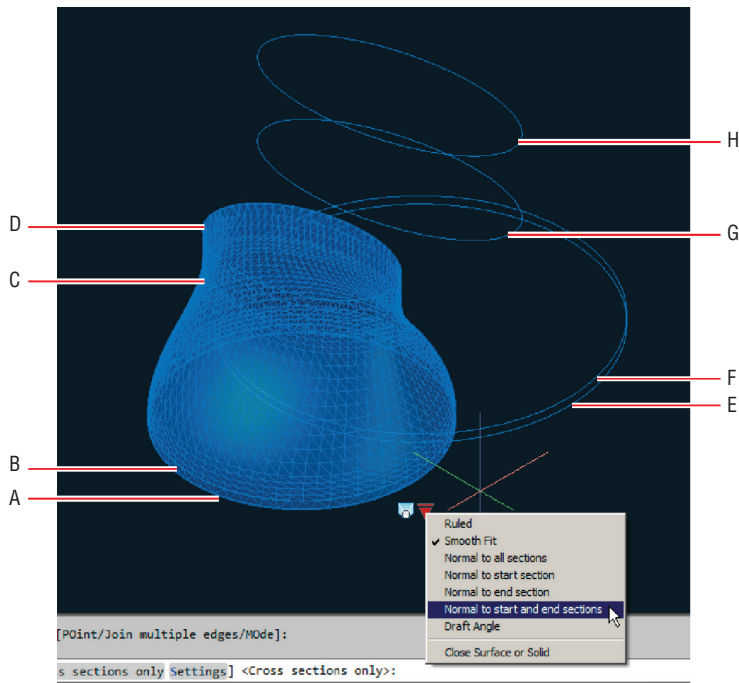
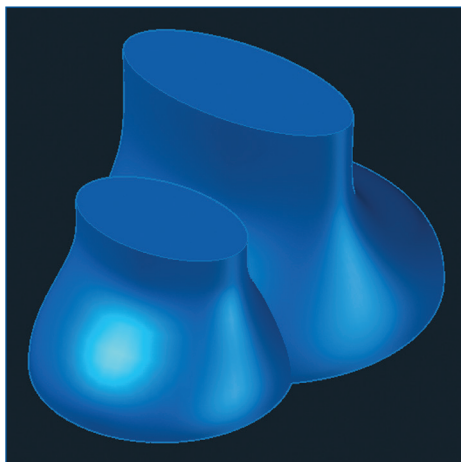

FIGURE 17.20 Lofting one of the two ventilation towers
FIGURE 17.21 Lofted ventilation towers
3. Zoom in on the collection of blue circles and ellipses. Select the Loft tool from the drop-down menu under Sweep on the Solid panel and press Enter. Select profiles A, B, C, and D shown in Figure 17.20 and press Enter twice. Select the loft object, open the grip menu that appears, choose Normal To Start And End Sections, and press Esc.
4. Press the spacebar to repeat the LOFT command. Select profiles E, F, G, and H, shown in Figure 17.20, and press Enter twice. Select the new loft object, open the grip menu that appears, choose Normal To Start And End Sections, and press Esc. Figure 17.21 shows the result.